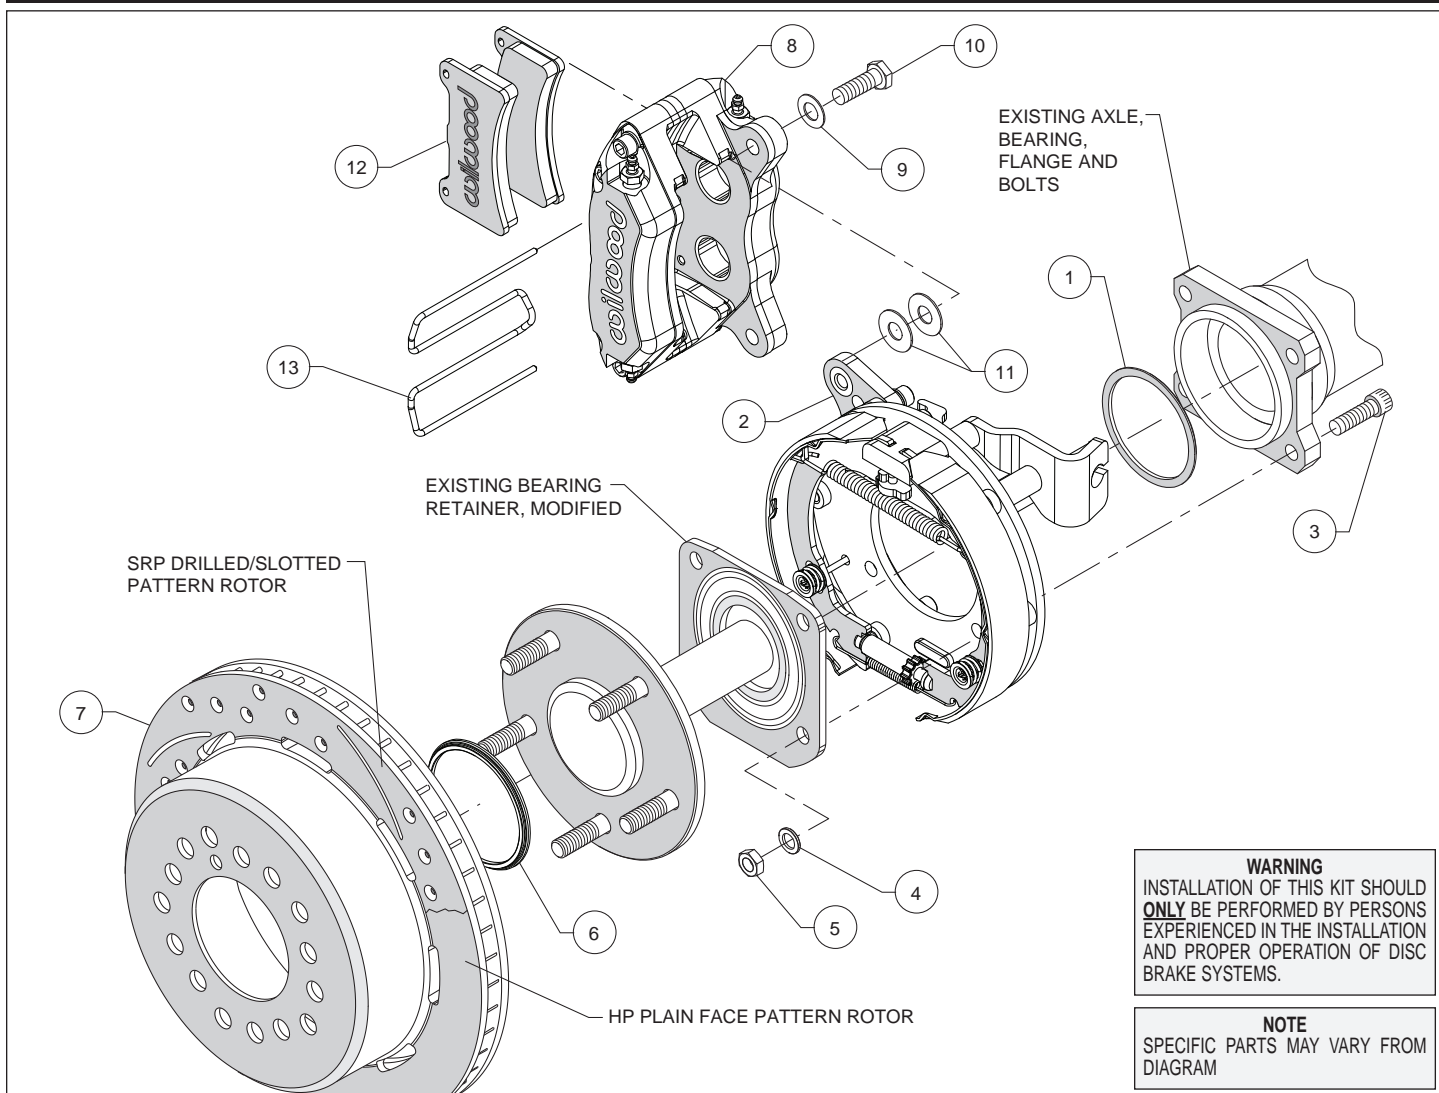
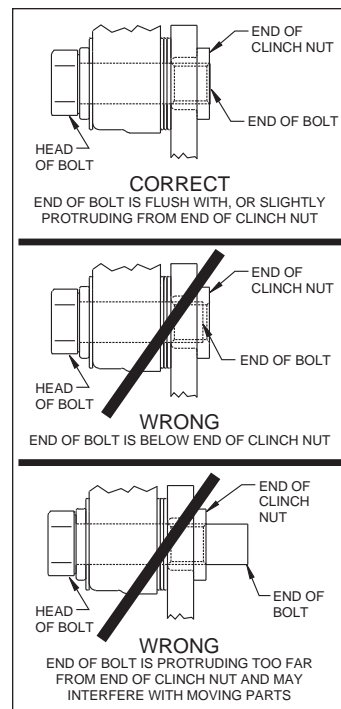

Figure 1. Typical Installation Configuration
Figure 5. Clinch Nut Engagement Diagram
Assembly Instructions (numbers in parenthesis refer to the parts list, and Figure 1 on the preceding pages): **CAUTION:** All mounting bolts must fully engage clinch nuts. Be sure to check that all bolts are either flush or protruding through flanged side of clinch nut after shimming, Figure 5.
- With the bearing retainer in place, slide the caliper mounting bracket assembly (2) onto the axle as shown in Figure 1 and Photo 1. Install axle shim (1) over axle shaft with bearing chamfer facing toward the axle housing, as shown in Photo 2.
- Slide the axle and parking brake assembly into the axle housing ensuring that the backing plate is flush with the axle housing flange and the bearing retainer is flush with the backing plate. Secure OEM bearing retainer using bolts (3), washers (4) and lock nuts (5), as shown in Figure 1. Lock nuts (5) and washers (4) that retain the caliper mounting bracket assembly (2) should be on the wheel side of the bracket, Figure 1. Torque nuts to 40 ft-lbs.
- Slide the rotor registration adapter (6) onto the axle register on the axle flange with the smaller O.D. facing toward the rotor/hat (7), Photo 3. Align the correct hole pattern in the rotor/hat with the stud pattern on the axle flange and slide into place, Figure 1 and Photo 4. **NOTE:** The rotor/hat must fit flush against the axle flange or excessive rotor run out may result. Install three lug nuts (finger tight) to keep the rotor/hat assembly in place while continuing with the installation. **NOTE:** Some OEM and after market axles come with stud sizes larger than 0.50" diameter. Verify stud size and have a qualified machine shop drill the bolt circle of the hat/rotor to the correct stud size, if necessary.
- NOTE:** Please reference the caution statement at the beginning of the assembly instructions. Mount the caliper (8) onto the caliper mounting bracket (2) using bolts (10) and washers (9), as shown in Figure 1. Initially place two .035" thick shims (11) on each bolt between the caliper and the bracket, Photo 5. Temporarily tighten the mounting bolts and view the rotor (7) through the top opening of the caliper. The rotor should be centered in the caliper, Photo 6. If not, adjust by adding or subtracting shims between the bracket and the caliper. Always use the same amount of shims on each of the two mounting bolts. **NOTE:** The end of each bolt must be flush with or slightly protruding from the head of the clinch nut, as shown in Figure 5. If necessary place spare shims between washer (9) and caliper mounting ear to achieve the proper clinch nut engagement. Once the caliper alignment and clinch nut engagement are correct, remove the bolts one at a time, apply red *Loctite*® 271 to bolt threads, and torque to 40 ft-lb.